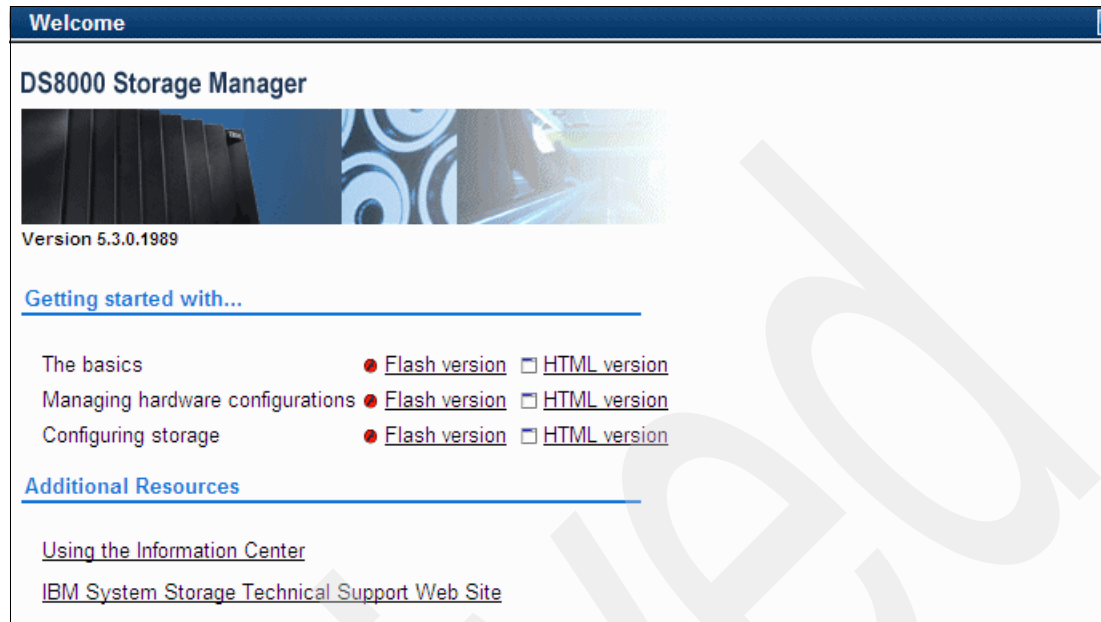

Figure 9-5 DS8000 Storage Manager Welcome panel
6. The DS8000 Storage Manager Welcome panel displays as shown in Figure 9-5.